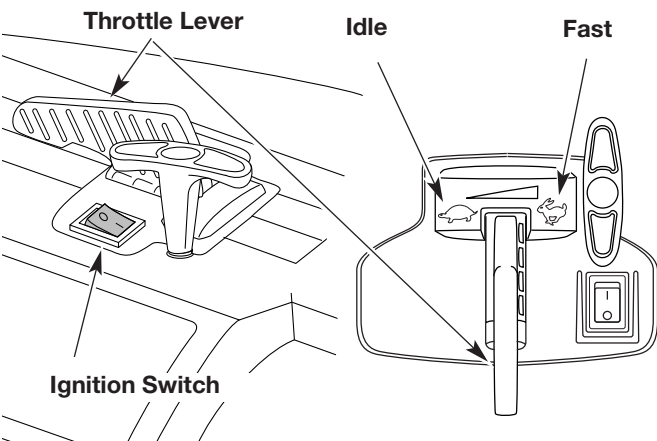

Fig. 10
6. With the unit on the ground, move the throttle lever to the fast position () (Fig. 10).
1. Move the throttle lever to the idle position () (Fig. 10). Allow the engine to cool down by idling.
2. Put the ignition switch down in the **STOP [O]** position (Fig. 10).